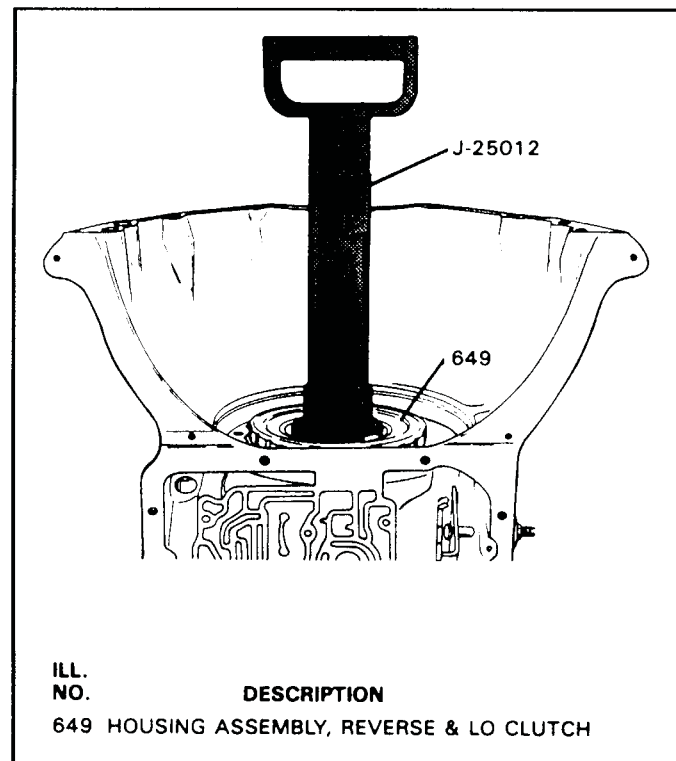

Figure 76
40. Install the Lo/Reverse clutch housing assembly, using installer J-25012, as shown in Figure 76.